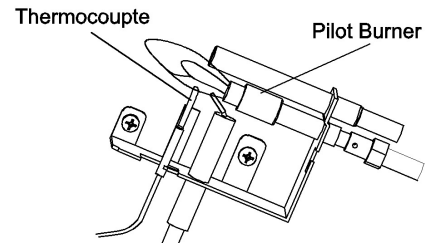

**Figure 31- Correct Flame Pattern with Control Knob Set to High Flame (5)**
- Figure 31 shows a correct burner flame pattern.